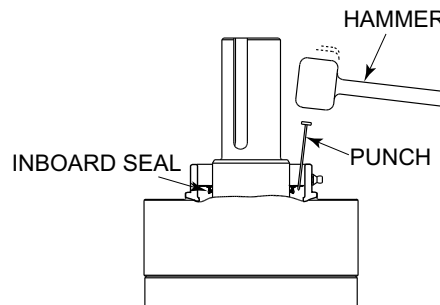

Figure 6.2.1.3 Piercing of Inboard Seal with Punch
7. From the pierced hole use the punch to pry the seal out of the housing. Reference Figure 6.2.1.4.